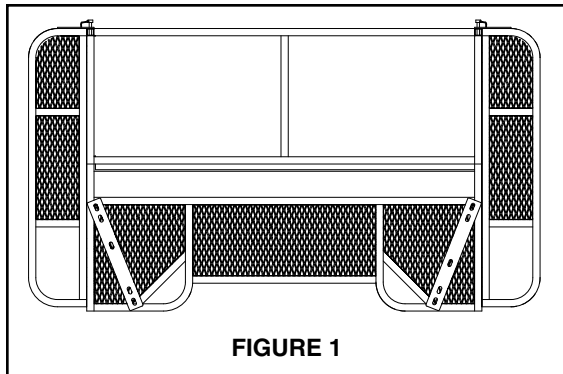

FIGURE 1
2. Place the provided support bracket flat bars on top of mesh surface and determine the best possible placement. To determine this, both ends of the flat bars must be supported by the square tube frame of the rack, not by the mesh! Flat bars must also be positioned at an angle to deter from shifting or sliding out of place. **SEE FIGURE 1.**
3. Place the remaining flat bars underneath the rack, so that they line up with the flat bars on top. Proceed by inserting one of the provided, various sized 1/4-20 bolts that is long enough to protrude through mating flat bar underneath rack. Do this in at least 2 locations on each flat bar. Use (2) provided 1/4" flat washers and (1) 1/4-20 nyloc nut to temporarily hold in position. **DO NOT tighten bolts at this time!**